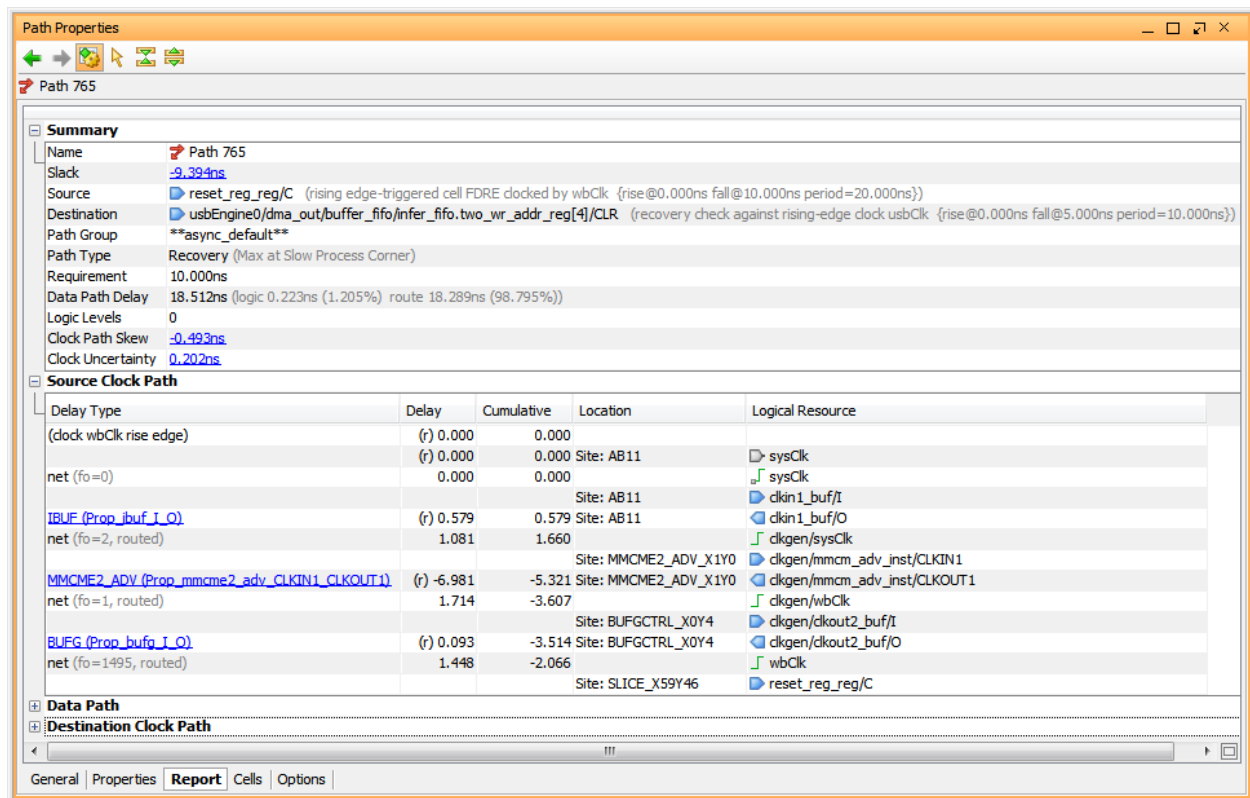

Figure 33: Path Properties window
- Select the Path Properties window, and **Maximize**, or **Float**, the window for the selected path, and examine the information provided as shown in Figure 33.